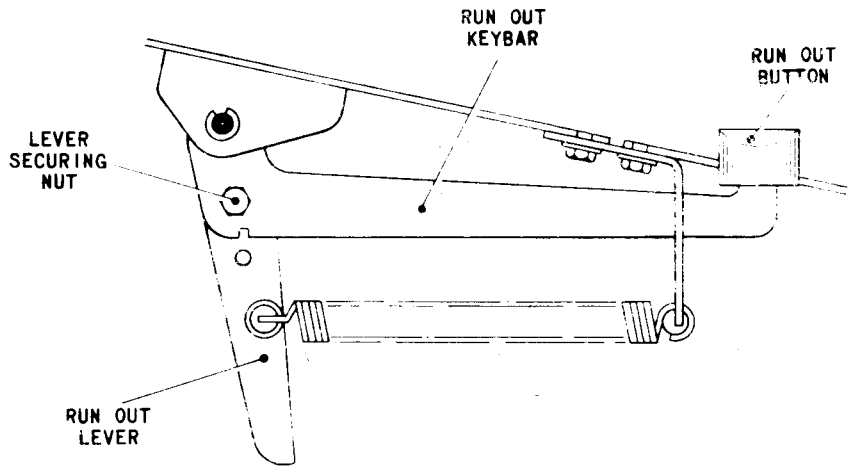

FIG. L.19 RUN OUT KEYBAR ASSEMBLY
- 21.2 If necessary, slacken the nut securing the run out lever, Fig. L.19, to the run out keybar and adjust the lever until the condition is satisfied. Tighten the locknuts and the special screw.